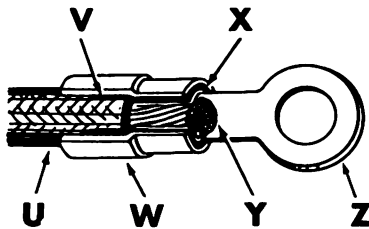

Figure 6B.
● Figure 6B is a cutaway drawing of a preinsulated terminal lug, a type extensively used in missile assemblies instead of soldered connections. In order to aid you in your familiarization with this commonly employed part, items 16 through 19 will emphasize some of the problems encountered in attaching one of these lugs to a cable end.
16. When you describe the terminal lug in figure 6B as either the straight, flag, or right-angles type, you are referring to the design of part
17. Which of the following parts in figure 6B is a feature found only in terminal lugs of the preinsulated type?
18. When the terminal lug and the cable end shown in figure 6B are properly inserted in tool MS 25037 for crimping, the tool stop is flush against the edge of part
19. Assume that part W of figure 6B is colored blue. In order to have a perfect fit in the terminal lug barrel, part U should be stripped back